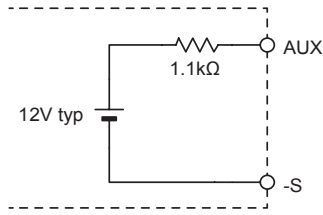

Fig.3.3 AUX circuit
■AUX is designed as shown in Fig.3.3, and a resistor (1.1kΩ) is built in to protect the short circuit. Output voltage decreases as the output current increases.